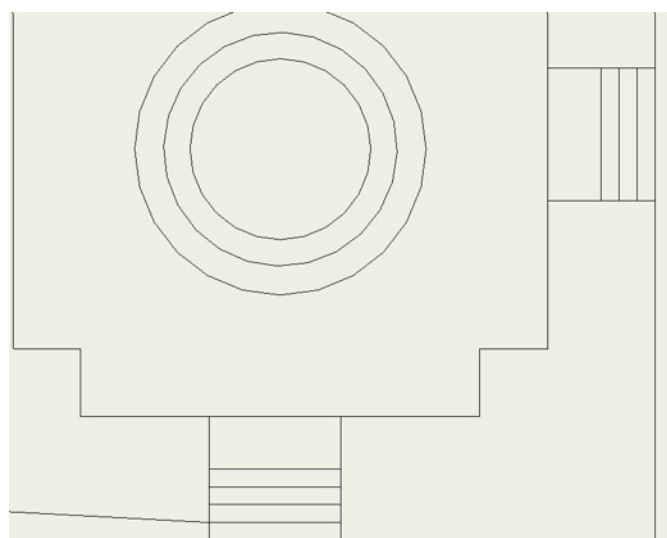

Figure 15. Completed steps
- Complete both sets of steps as shown in Figure 15.